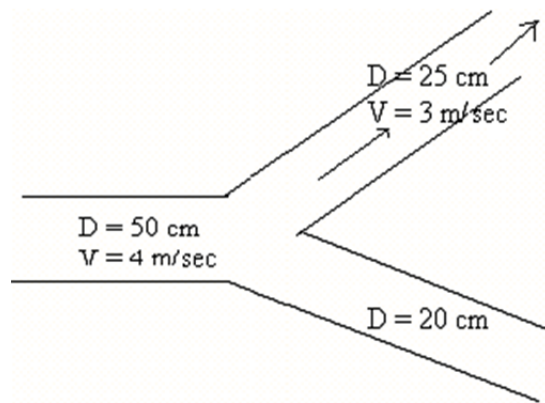

Figure 2
- (b) A pipe 50 cm in diameter branches into two pipes of diameters 25 cm and 20 cm respectively as shown in Figure 2. If the average velocity in 50 cm diameter pipe is 4m/sec, find